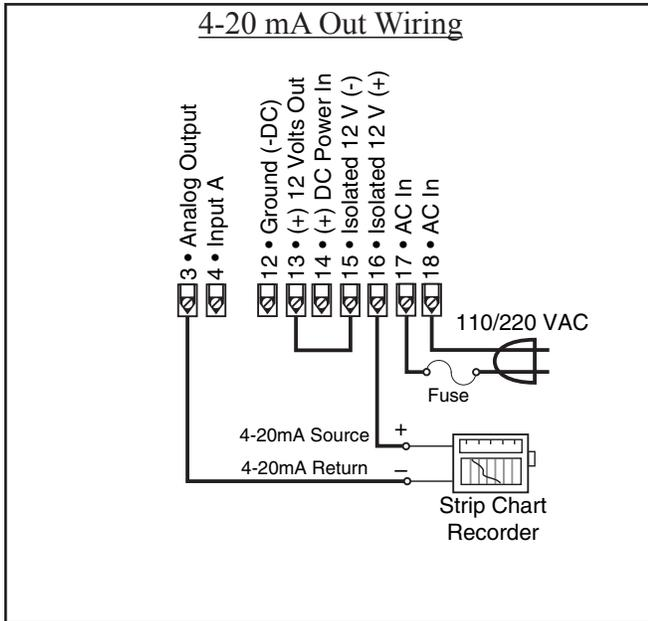

Figure 5-2.1
**Idea:** The DPF-310 can supply the 24VDC to power the current loop. (Connect pin 15 to 13, Pin 16 is now +24 VDC with respect to pin 12.) Connect Pin 16 to the + DC side of the external device and connect Pin 3 to -DC side of the external device (see Figure 5-2.1).